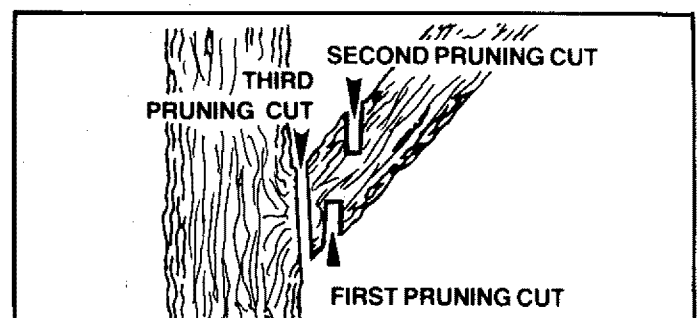

Figure 26
- b. **Refer to Figure 26 for the pruning technique.**